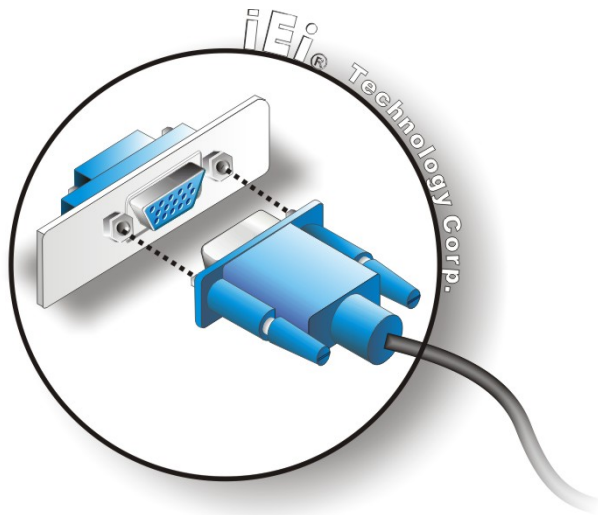

Figure 3-23: VGA Connector
- Step 3:** **Insert the VGA connector** Once the connectors are properly aligned with, insert the male connector from the VGA screen into the female connector on the TANK-800. See **Figure 3-23**.